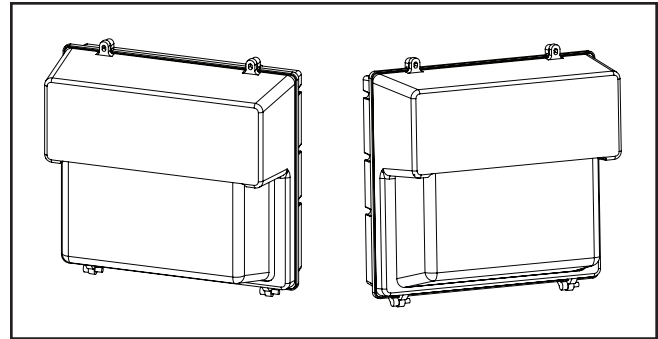

Figure 1
1. Open the fixture by loosening the two tamper resistant screws with the Torx T-20 bit (included) on the side and remove the glass door assembly. (Figure 1)